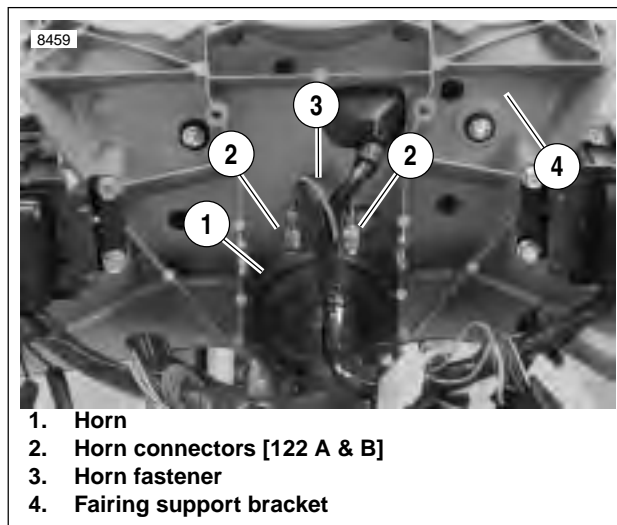
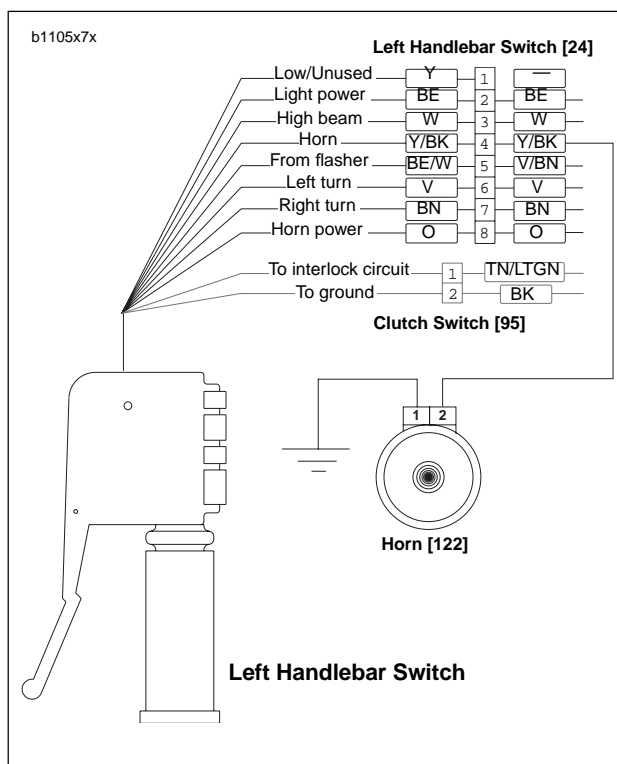

Figure 7-64. Horn Assembly
Figure 7-65. Horn Wiring
4. See Figure 7-64. Remove fastener (3).
5. Remove horn (1) from fairing support bracket (4).
6. See Figure 7-65. Detach Y/BK power wire and BK ground wire from terminal clips on horn.
1. See Figure 7-65. Connect Y/BK power wire and BK ground wire to terminal clips on horn.
2. See Figure 7-64. Attach horn (1) to fairing support bracket (4) using fastener (3). Tighten to 72-96 in-lbs (8.1-10.8 Nm).
- a. See Figure 7-65. Remove Y/BK power and BK ground wires from terminal clips.